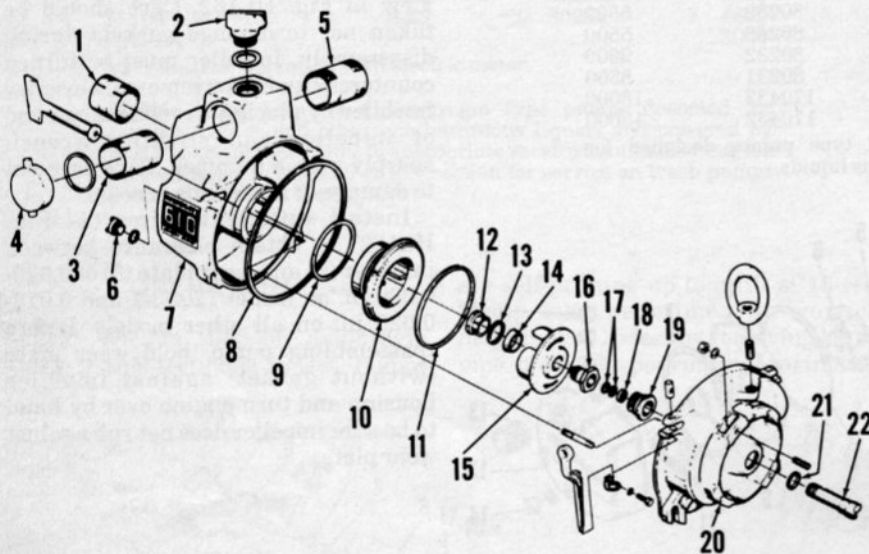
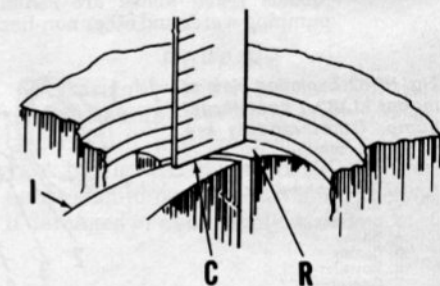

Fig. HL167—Exploded view of model 123TP4 trash pump. Model 160 TP4-1 is similar.
Fig. HL169—Gap (C) between impeller (I) and wear plate recess (R) in impeller housing of models 123TP4 and 160TP4-1 should be 0.005-0.015 inch. Refer to text.
clockwise direction. It may be necessary to pry wear plate (10—Fig. HL167) out of end housing on model 123TP4. Note locating notch in wear plate and corresponding locating boss in end housing.
Proper impeller location on model 123TP4 is determined as follows: Install components (15 thru 21—Fig. HL167) on engine crankshaft and measure depth of impeller vane adjacent to wear plate recess of impeller housing (20) as shown in Fig. HL169. Install shims (17—Fig. HL167) to obtain a depth of 0.005-0.015 inch. Shims are available in thicknesses of 0.010-0.015 inch.